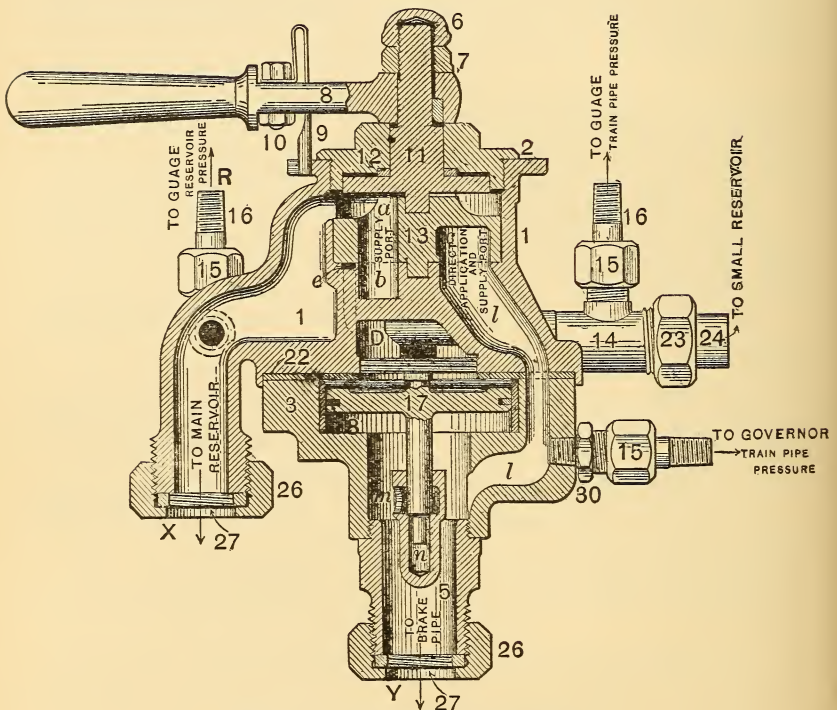

FIG. 31.—D 8 BRAKE VALVE.
A. With the handle 8 of the valve (Fig. 31) in full release position, the air coming from the main reservoir enters the engineer's valve at *X*, passes on top of the rotary, through port *a* of the rotary 13, port *b* of the rotary seat and into cavity *c* of the rotary, thence through port *l* and into the train line at *Y*.
exposed to cavity *e*, and as air passes into the train line it also passes up into cavity *c* and through port *g* (See Figs. 31 and 33) into cavity *D*, or the little drum.
A. The pump governor, which is actuated by train-line pressure. (See 15, Fig. 31.)